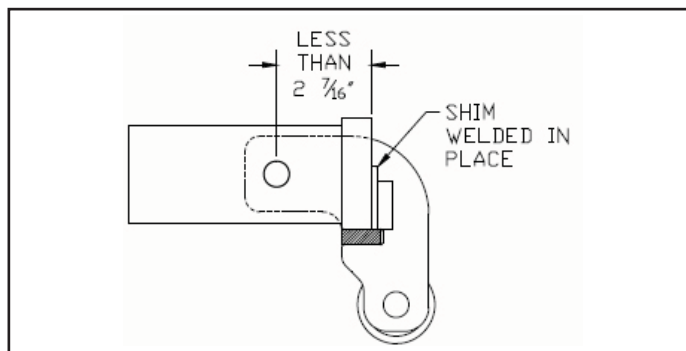

Fig. 3
3. If you have too much space at point 'A', DO NOT use the Roller Hitch protector unless you weld a shim to fill the gap at point 'A'. This will hold the Roller Hitch in the correct position. The shim can be welded to either the hitch receiver or to the Roller Hitch. (Fig. 3).